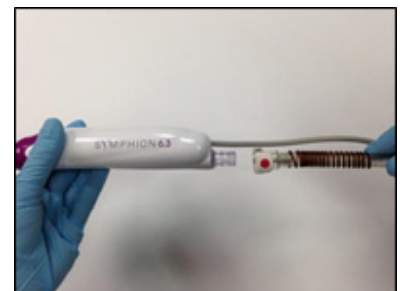

Figure 36
**CIRCULATING NURSE** – Connect the Aspiration Tube to the quick connect fitting on the proximal end of the Resecting Device (Fig.36).